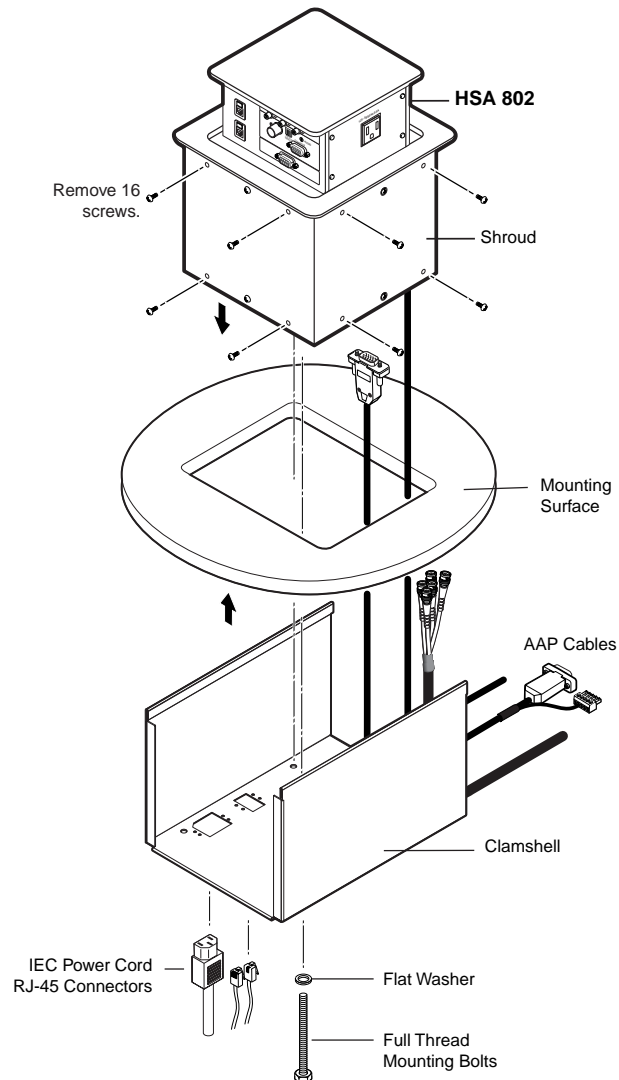

Figure 2-2 — Removing the HSA 802 from the table
- On the underside of the table, remove the two bolts that secure the clamshell to the surface mount enclosure (figure 2-2). Lift the enclosure out of the table. Ensure that the cables connected to the AAPs do not snag or pull on any protrusions.
NOTE Figure 2-2 shows an HSA 802. For the purposes of this procedure, the HSA 800 and HSA 822 are physically similar.